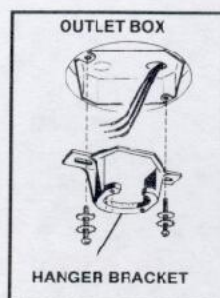

FIG. 6
Step 1. Secure the hanger bracket to the ceiling outlet box using screws, lock washers, and flat washers included with the fan. (Fig. 6) Note: Optional wood screws and spring washers are provided for mounting of hanger bracket directly to building structure.